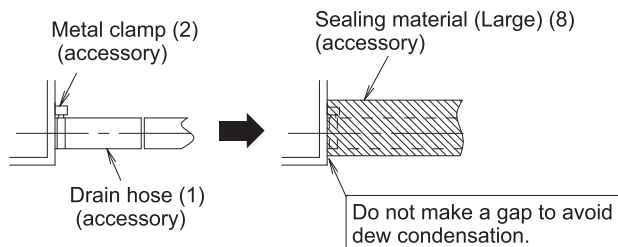
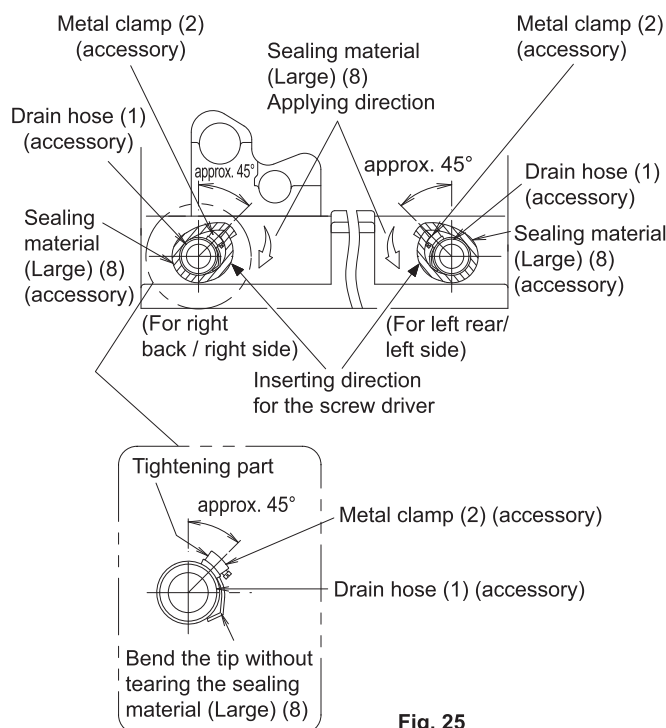

Fig. 24
Fig. 25
- Make sure to use the attached drain hose (1) and metal clamp (2). Also, insert the drain hose (1) into the root of the drain socket, and tighten the metal clamp (2) at the root of the drain socket tightly. (Refer to Fig. 24 and Fig. 25) (Install the metal clamp (2) so that the tightening part is in the range of about 45° as shown in the Fig. 25.) (Do not bond the drain socket and drain hose. If so, maintenance and inspection for the heat exchanger and others cannot be conducted.)
- Bend the tip of the metal clamp (2) so that the sealing material does not bulge. (Refer to Fig. 25)
- When performing insulation, wind the large sealing material (Large) (8) attached starting from the base of the metal clamp (2) and drain hose (1) in the direction of the arrow. (Refer to Fig. 24 and Fig. 25)